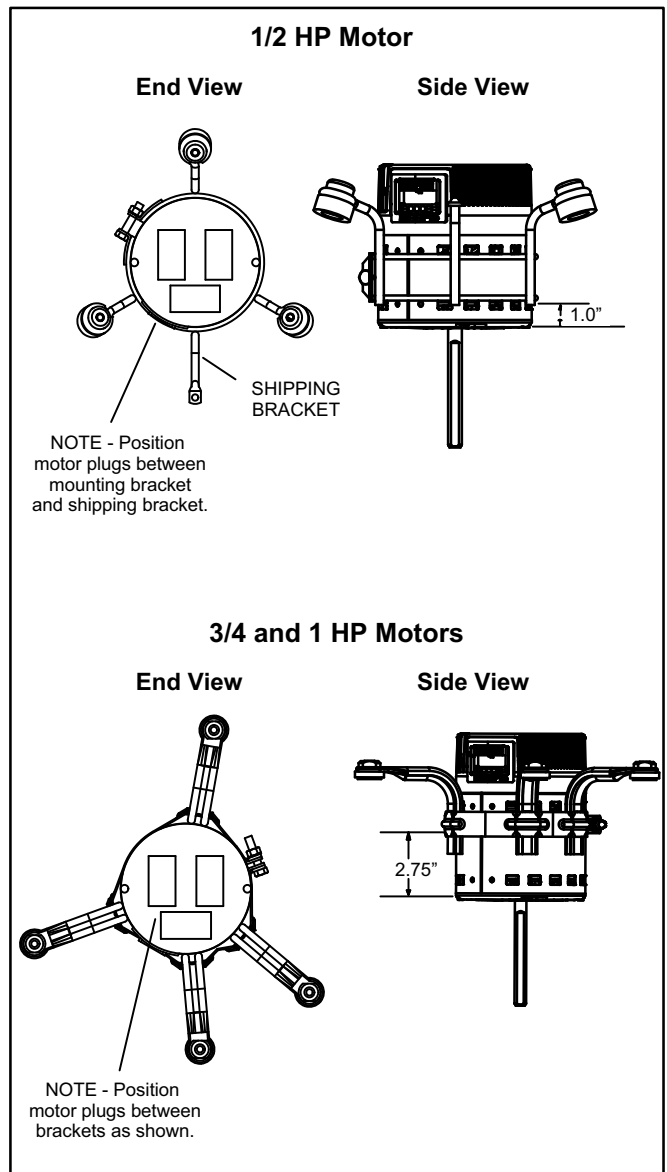

Figure 4. Motor Mounting Bracket Installation
- 10 - Make sure that the motor assembly is properly oriented and that there is a suitable drain loop in all cables. See figure 4 for proper orientation and slide motor mounting bracket onto replacement blower motor. Check dimensions given in figure 4 before securing bracket to motor using existing bolt.